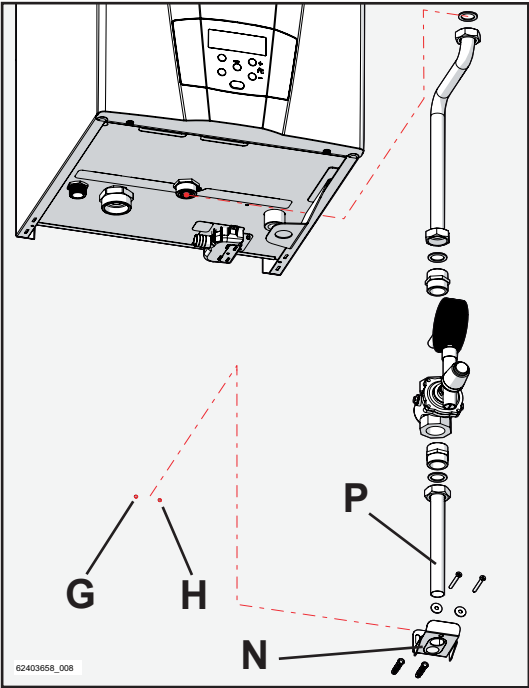

Figure 5-30
- 5 - Fasten fixing bracket "N" to the wall, insert gas pipe "P" inside it and connect the various components as shown in figures 5-30 and 5-31 (the components shown belong to the kit code 62630231 and code 62630232, sold separately);